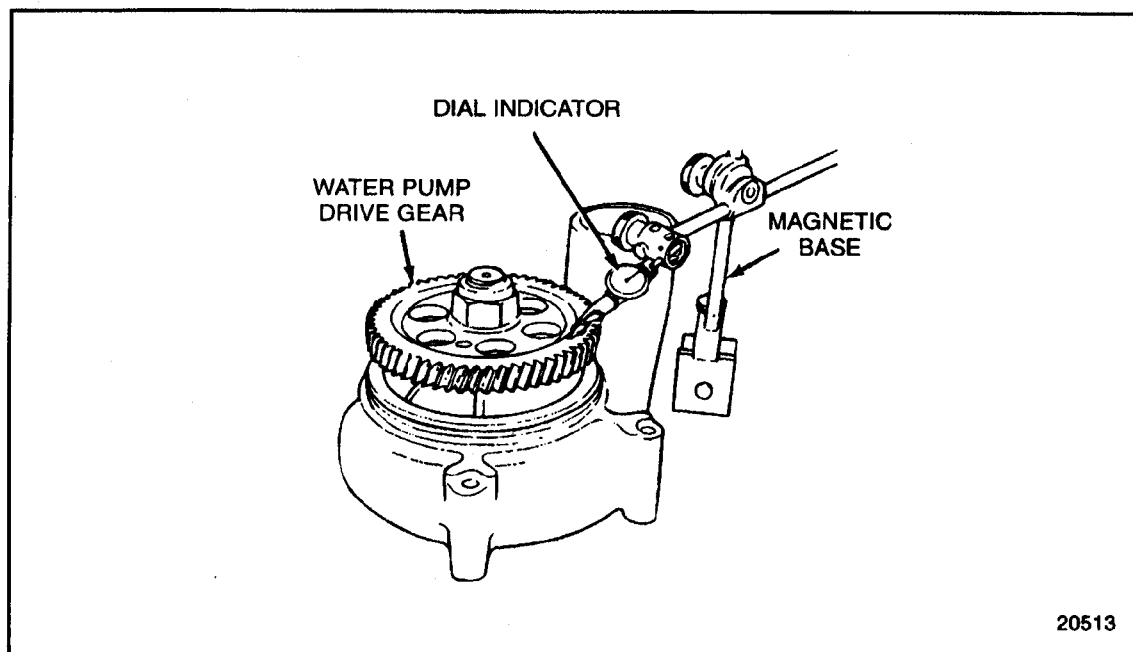

Figure 4-65 Measuring Water Pump Drive Gear Runout (FM)
4. Using a dial indicator with magnetic base, measure the total run-out of the water pump drive gear at four places, at 90 degree intervals. Maximum allowable run-out is 0.0635 mm (0.0025 in.). See Figure 4-65.